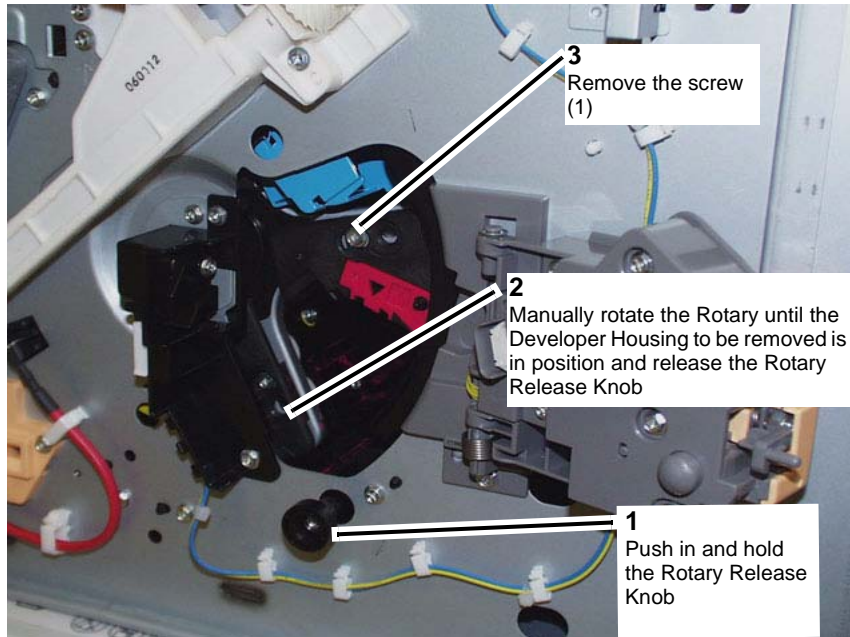

Figure 3 Preparing to remove the Developer Housing
9. Prepare to remove the Developer Housing. (Figure 3)